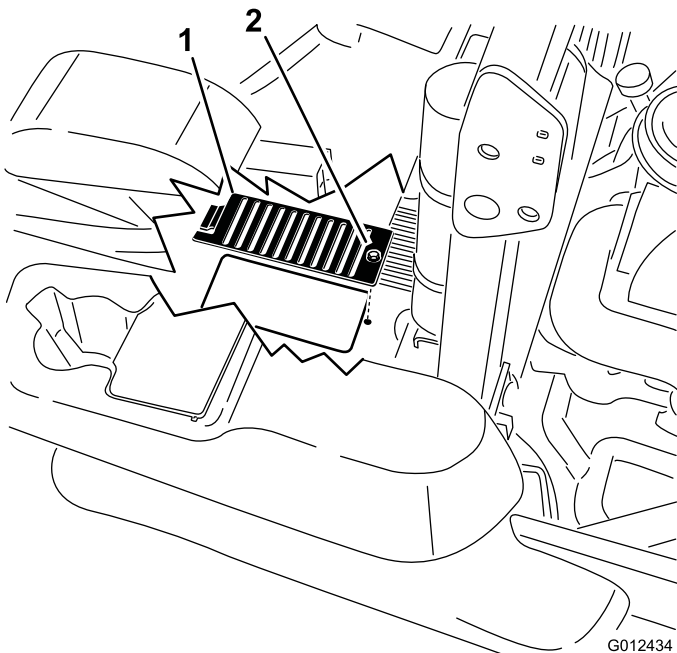

Figure 67
6. Over each dipstick, remove the cover and the bolt attached to the cover. Clean around each dipstick and hydraulic unit (Figure 67).